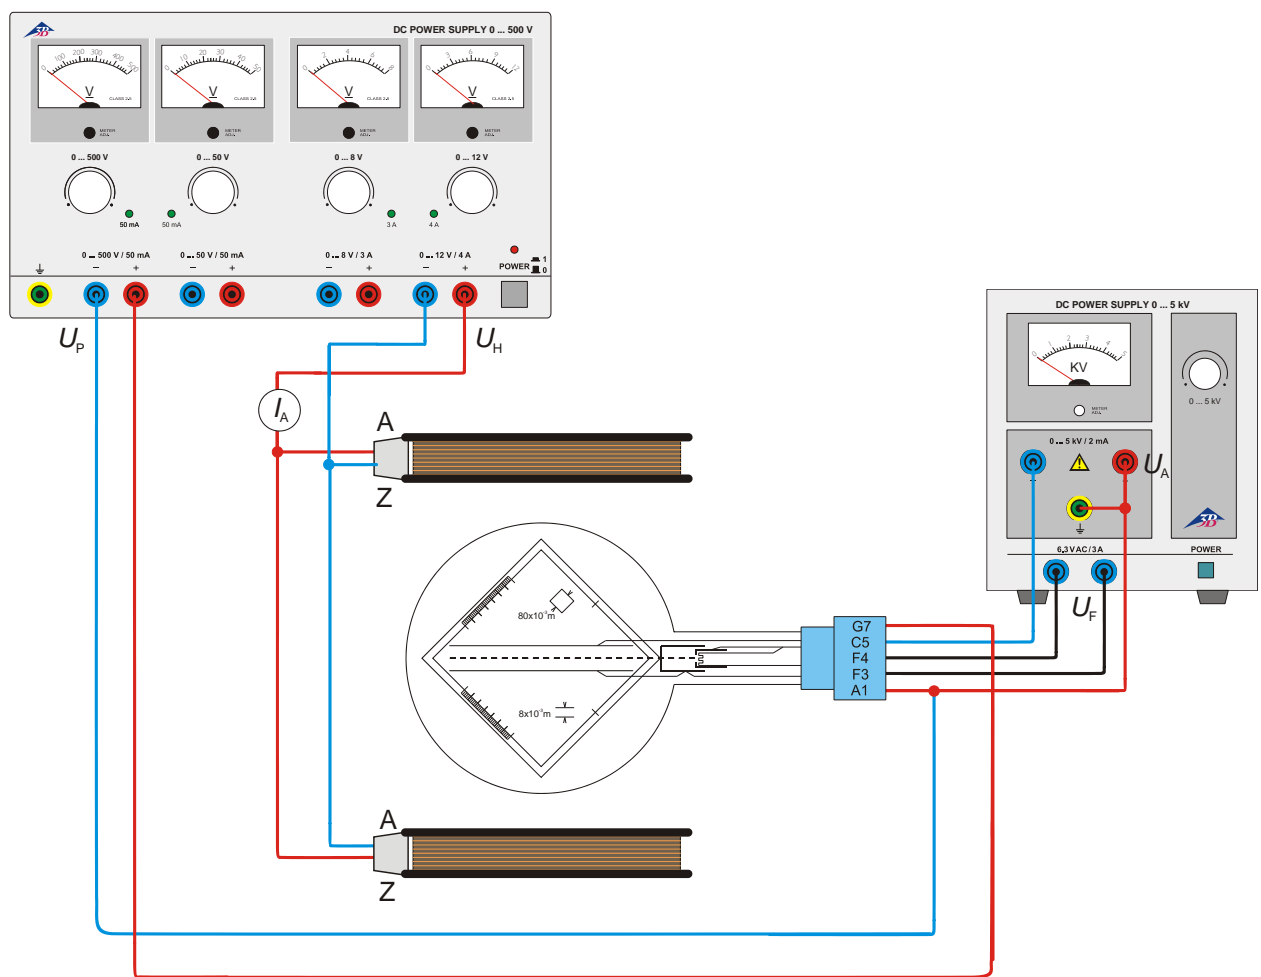

Fig. 4 Determining  $e/m$  by means of field compensation
- Set up the experiment as in Fig 4.